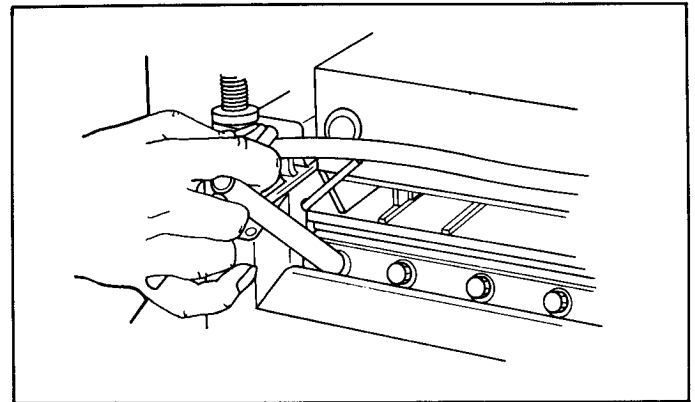

Figure 9
4. Loosen the six hex head bolts attaching the blade assembly to the cutter (Figure 9). Use the wrench supplied or a 9mm socket wrench. Remove the bolts and lift out the blade assembly.